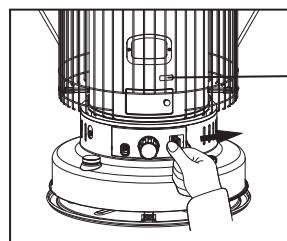

Fig.13
- Push the ignition lever to the right (Fig.13) to bring the glowing igniter into contact with the wick. This will cause ignition to occur.